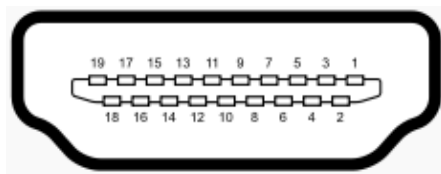

Figure 3-24: HDMI Connector Pinout Locations
- CN Pinouts:** See **Table 3-23** and **Figure 3-24**